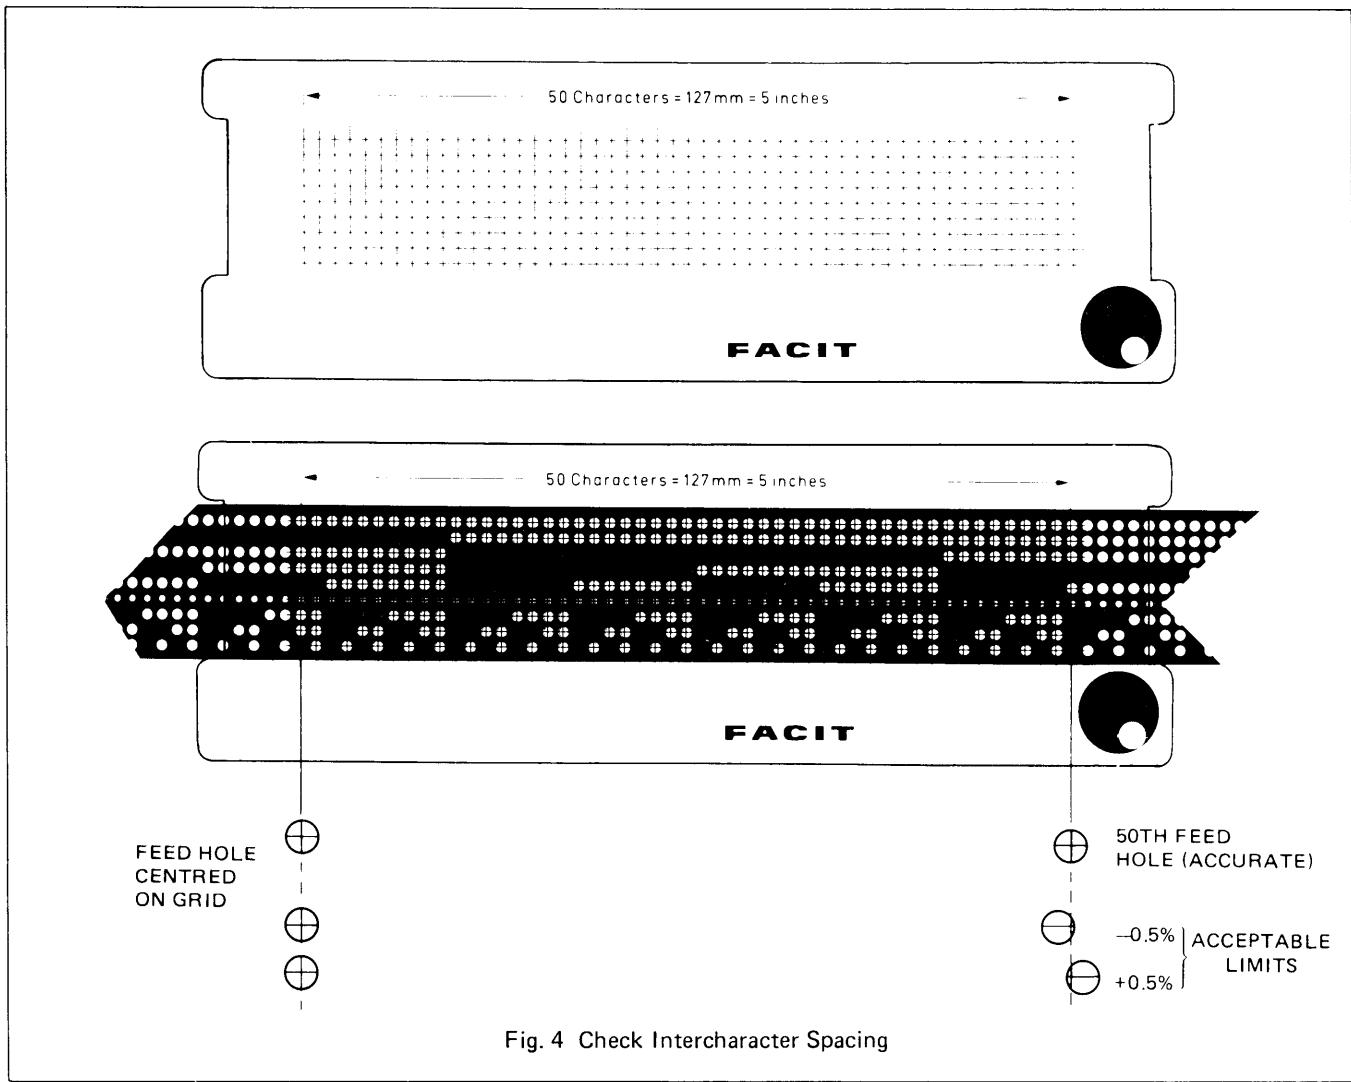

Fig. 4 Check Intercharacter Spacing
The accuracy of punching can be checked by using the Facit template part no. 1114 00 50-00/0 as shown in fig. 4. It is recommended that this check is carried out approximately every 50th tape reel used.
- (1) Lay the punched tape on the template as shown in fig. 4, with a feed hole accurately centred on the leftmost vertical line.
- (2) Examine the 50th feed hole on the rightmost vertical line. If this line is visible within the hole, (i.e. within $\pm 0.5\%$), the punch accuracy is acceptable.
- (3) If the vertical line is not visible (i.e. outside $\pm 0.5\%$) the punch mechanism requires servicing.